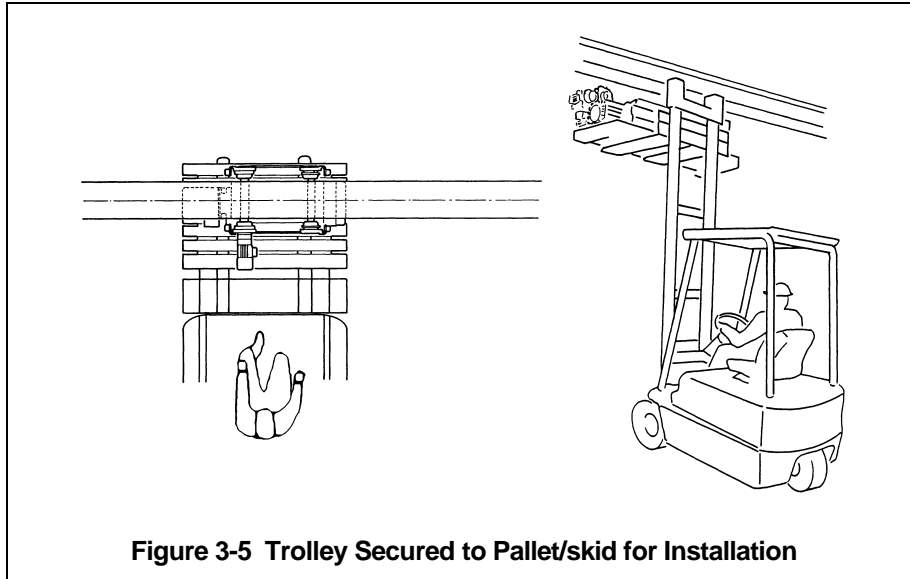

Figure 3-5 Trolley Secured to Pallet/skid for Installation
⚠ WARNING When installing the trolley hoist on a beam, ALWAYS raise the hoist into position with the trolley assembled together and securely attached to a pallet/skid. Raise the trolley hoist with a forklift, lifting platform, or other similar means. NEVER use slings to raise and install the trolley hoist onto the beam. Using a forklift or another suitable means, position the pallet/skid so that the horizontal axis of the beam is parallel to the horizontal axis of the trolley hoist as shown in **Figure 3-5**.
- 2) Install any additional devices, if any (power supply cords or pendants, for instance – see **Section 3.7**) onto the trolley hoist. If the trolley hoist is not secured to a pallet, place and secure it to one making sure that the trolley hoist is completely stable as shown in **Figure 3-5**.